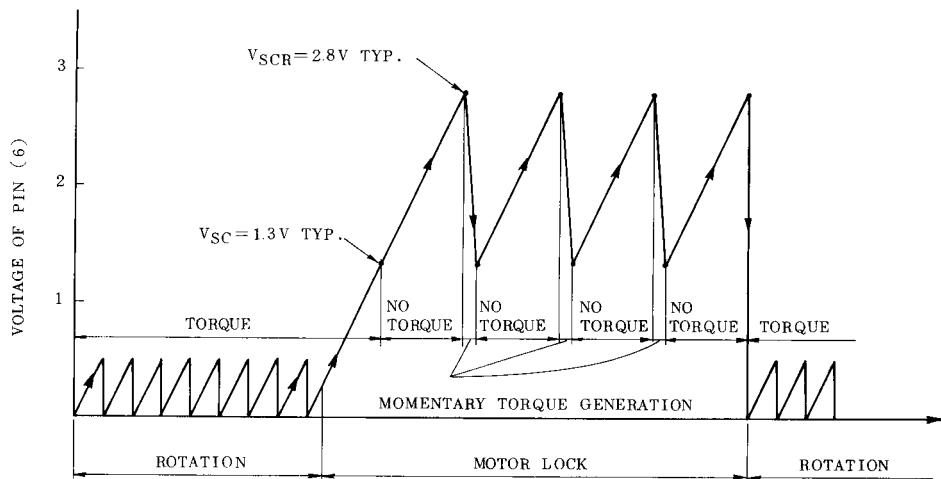

Fig. 1 Operation of Automatic Self Recovery Circuit
Fig. 1 shows (6) pin voltage and the operation of this functions are follows.